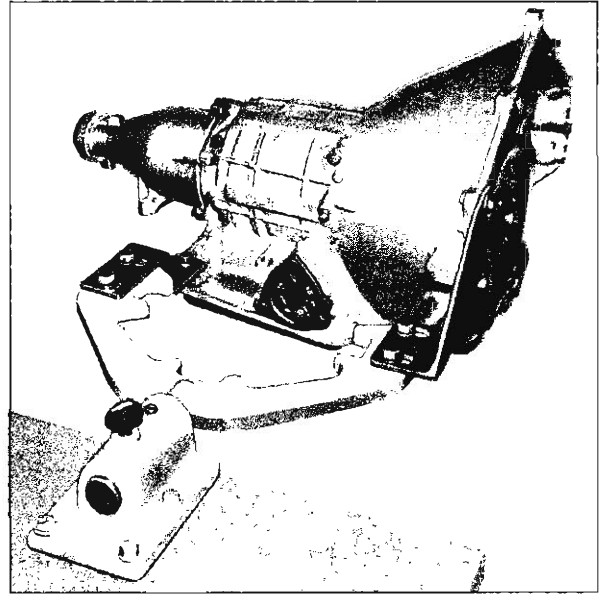

Fig. 6PG—Transmission Mounted in Fixture
1. Place transmission in holding fixture J-3289-01 and adapters J-9506 (fig. 6PG).